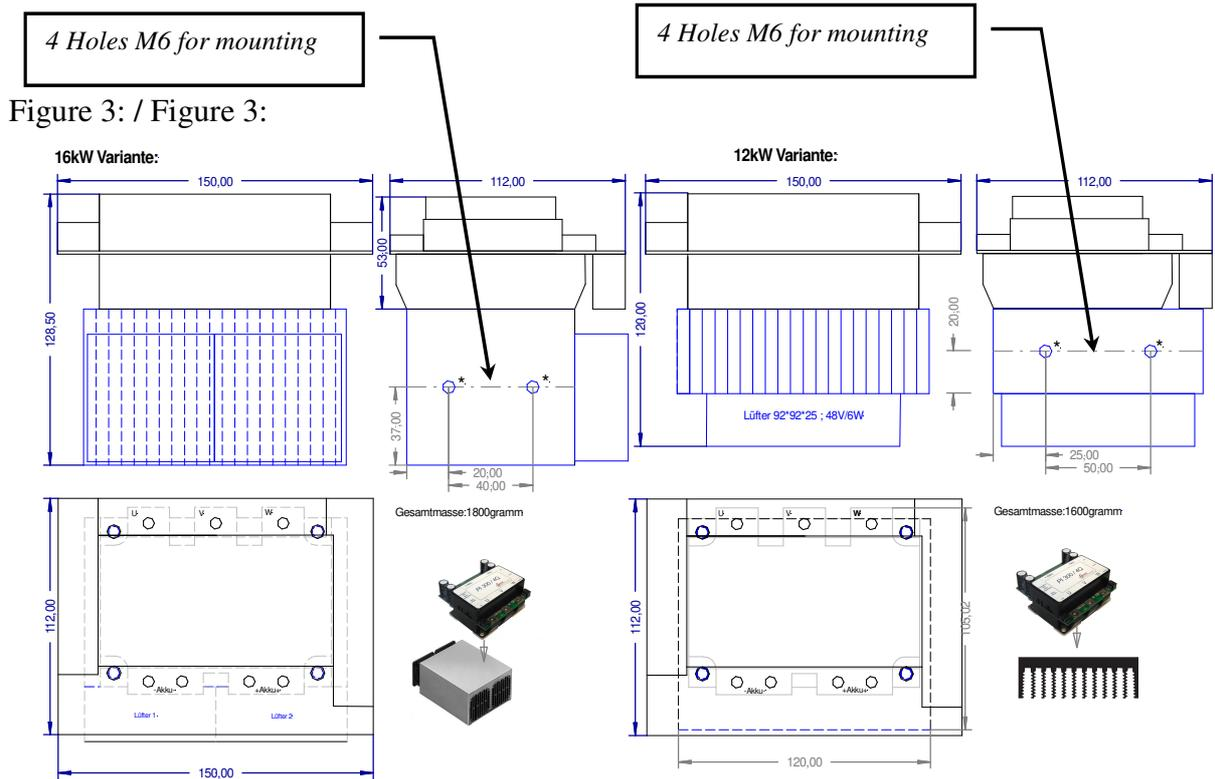

Figure 4: / Figure 4:
*Connect the motortemperature sensor to the MC300 connector (See Figure 4).*